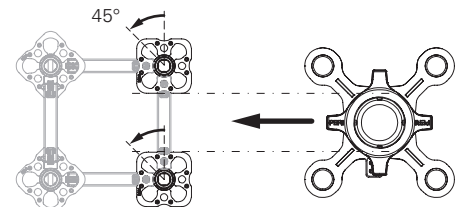

Fig. A1.07a
1. Remove the horizontal ledger (4) up to the joint of the standard on three sides of the prop.
2. Remove the $\varnothing 48/57$ locking pins (6) from two adjacent standards.
3. Turn both free Standards UVR-2 by 45°. (Fig. A1.07a)